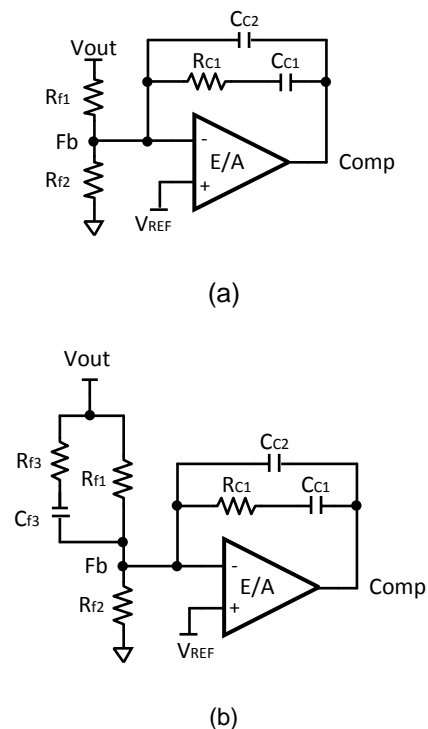

Figure 5 Loop Compensator (a) Type II, (b) Type III
Two types of compensators are commonly used: Type II (PI) and Type III (PID), as shown in Figure 5. The selection of the compensation type is dependent on the ESR of the output capacitors. Electrolytic capacitors have relatively higher ESR. If the ESR pole is located at the frequency lower than the cross-over frequency, F_C , the ESR pole will help to boost the phase margin. Thus a type II compensator can be used. For the output capacitors with lower ESR such as ceramic capacitors, type III compensation is often desired.